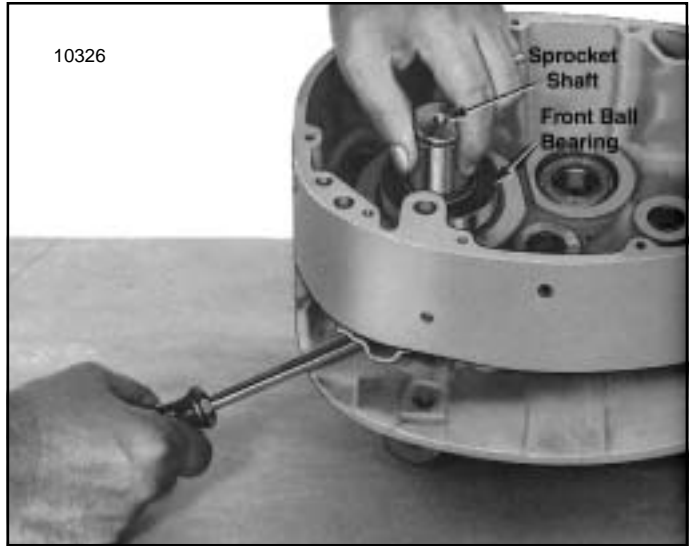
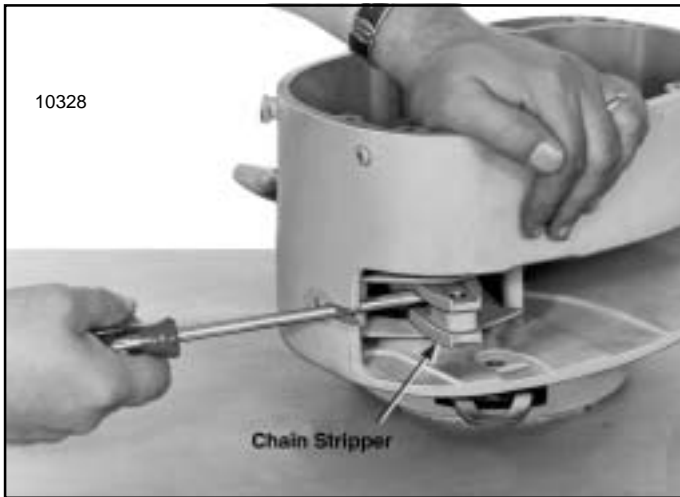

Figure 7-14. Removing Sprocket Shaft and Front Bearing
Figure 7-16. Chain Stripper being partially removed from Chain Guide (Roller Chain Model)
(4) Remove sprocket shaft and front ball bearings assembly from frame by lifting up on end of shaft while prying up on sprocket as illustrated in figure 7-14. The chain guide will need to be repositioned in frame as sprocket shaft is raised to allow the sprocket to pass thru hole of guide (fig. 7-15). On roller chain model hoists, the chain stripper must be partly removed from guide by prying it out using screw driver or other suitable tool. See figures 7-16 and 7-17.